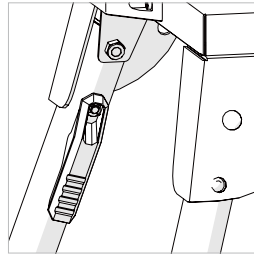
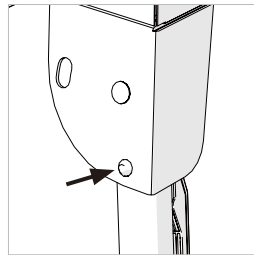

Fig. 1
Fig. 2
- Squeeze the locking/unlocking lever (**Fig. 1**) towards the leg to release from the stored position.
- Repeat until all four (4) legs have been deployed.
- Ensure that all four (4) legs are locked into their service position. The hinge latching pins must be fully engaged with the machined slots incorporated into the tables corner brackets. (**Fig. 2**).